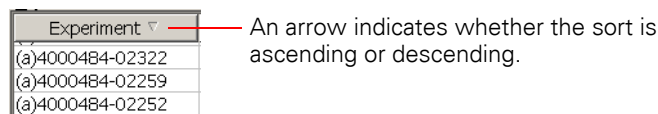

Figure 4.28 Sorting the Information in a Column
2. Click the column heading again to change the sort order (Figure 4.28).